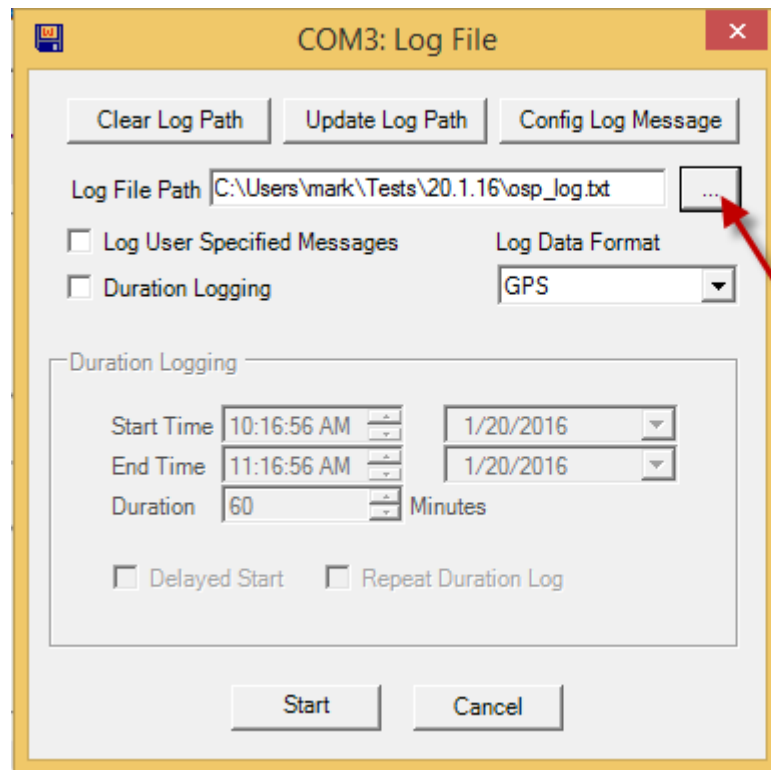

Figure 14 – log file menu
3. Click on the “...” square in the “Log File Path” line – marked with a red error on figure 14, in order to change the log file name, its location (path) and type. A .txt file type is usually best suitable type for a log file.
4. Click on the “Start” button on the bottom of the log file menu (figure 14).